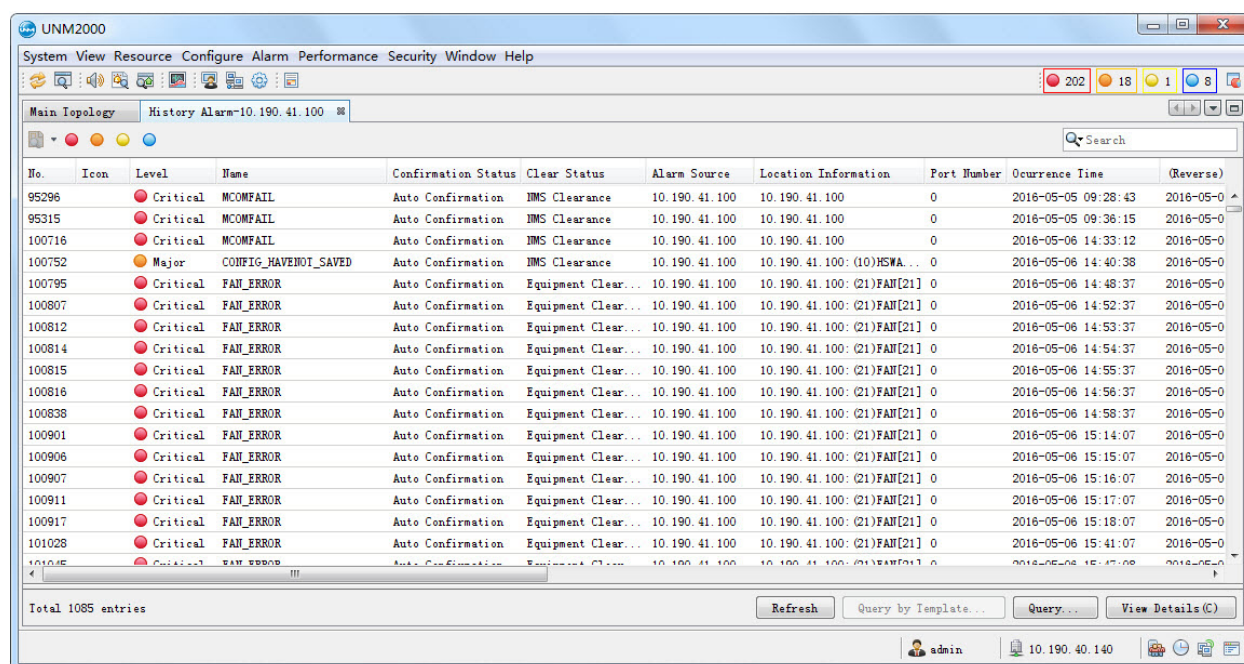

Figure 4-2 Viewing Alarm History
1. Right-click the object to be queried, and select **History Alarm** from the shortcut menu to view the alarm history of the object. See Figure 4-2.